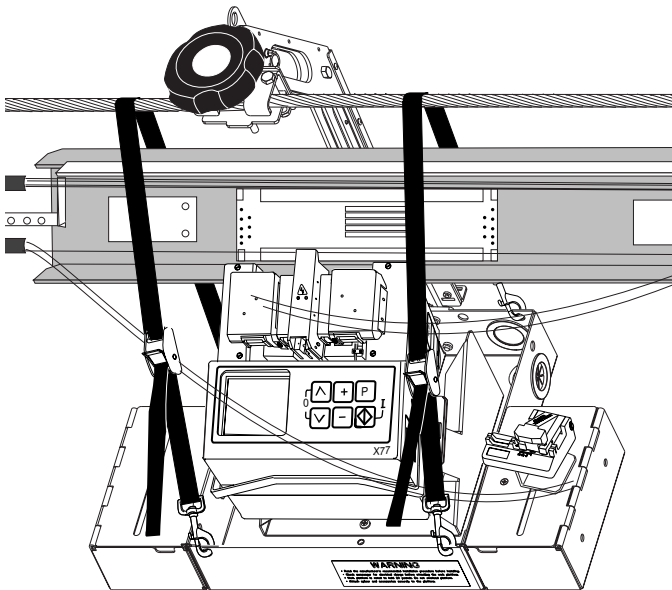

Figure 27
- d) To adjust the ASP's position (Figure 27):